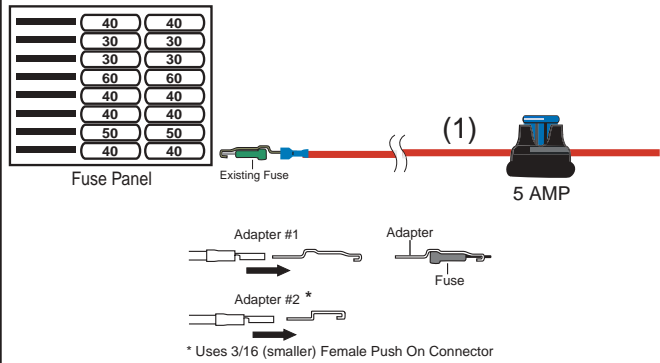

Figure 6
- Choose the supplied fuse adapter that best suits your fuse panel (Figure 6).
- Attach the chosen fuse adapter and to a keyed on ignition source on the fuse panel (Figure 6).